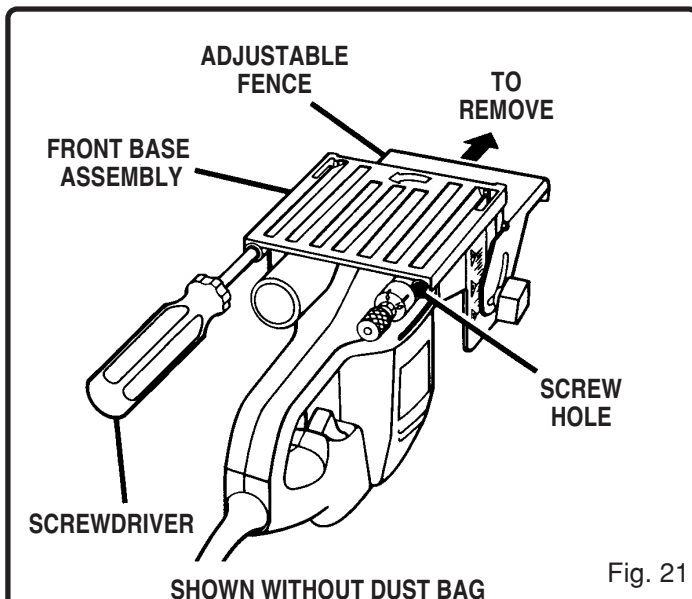

Fig. 21
- Place your plate joiner upside down on a workbench as shown in figure 21.
- Pull adjustable fence in the direction shown by the arrow in figure 21 and remove front base assembly.